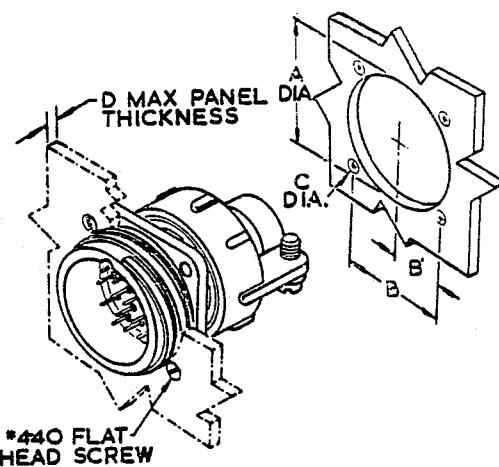

Fig. 3. Standard flange receptacle rear mounting (Table 3)
(2) Rear mounting; the method used to rear mount the standard flange receptacle is shown in fig.3.
Standard flange receptacle rear mounting dimensions (fig.3)